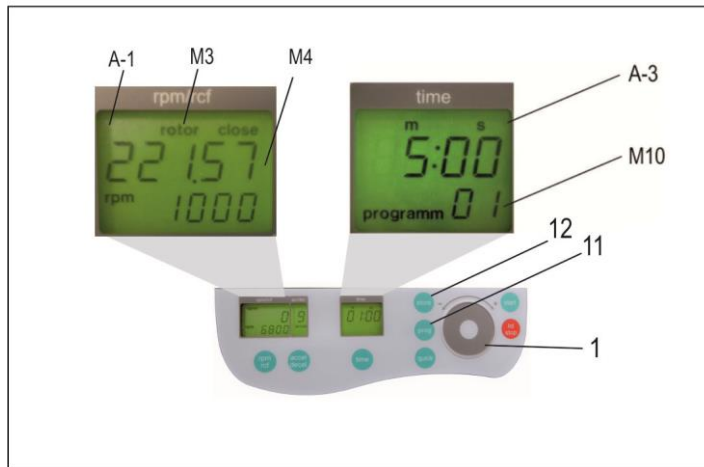

Figure 17
Put the rotor into the centrifuge. By pressing the key, "prog" (11), in the display "time" (A-3) appears the word "program", (see Figure 17). With the control field (1), choose the desired program number.